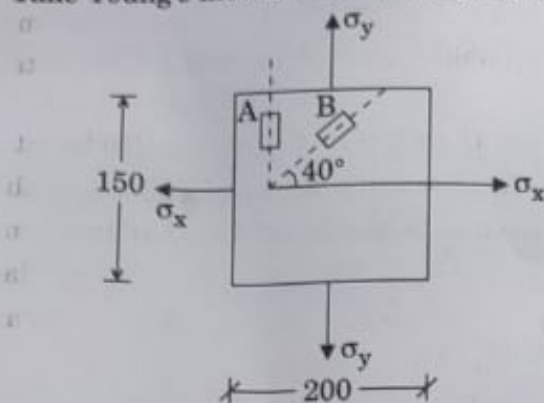

Figure 2
- (e) A $200 \text{ mm} \times 150 \text{ mm} \times 10 \text{ mm}$ aluminium plate is subjected to uniform bi-axial stresses σ_x and σ_y . Two strain gauges A and B are attached to the surface of the plate as shown in the Figure 2. If readings in strain gauges are $\epsilon_A = 200 \times 10^{-6}$ and $\epsilon_B = 285 \times 10^{-6}$, what are the values of σ_x and σ_y ? What is the reduction in thickness of the plate as a result of stresses?